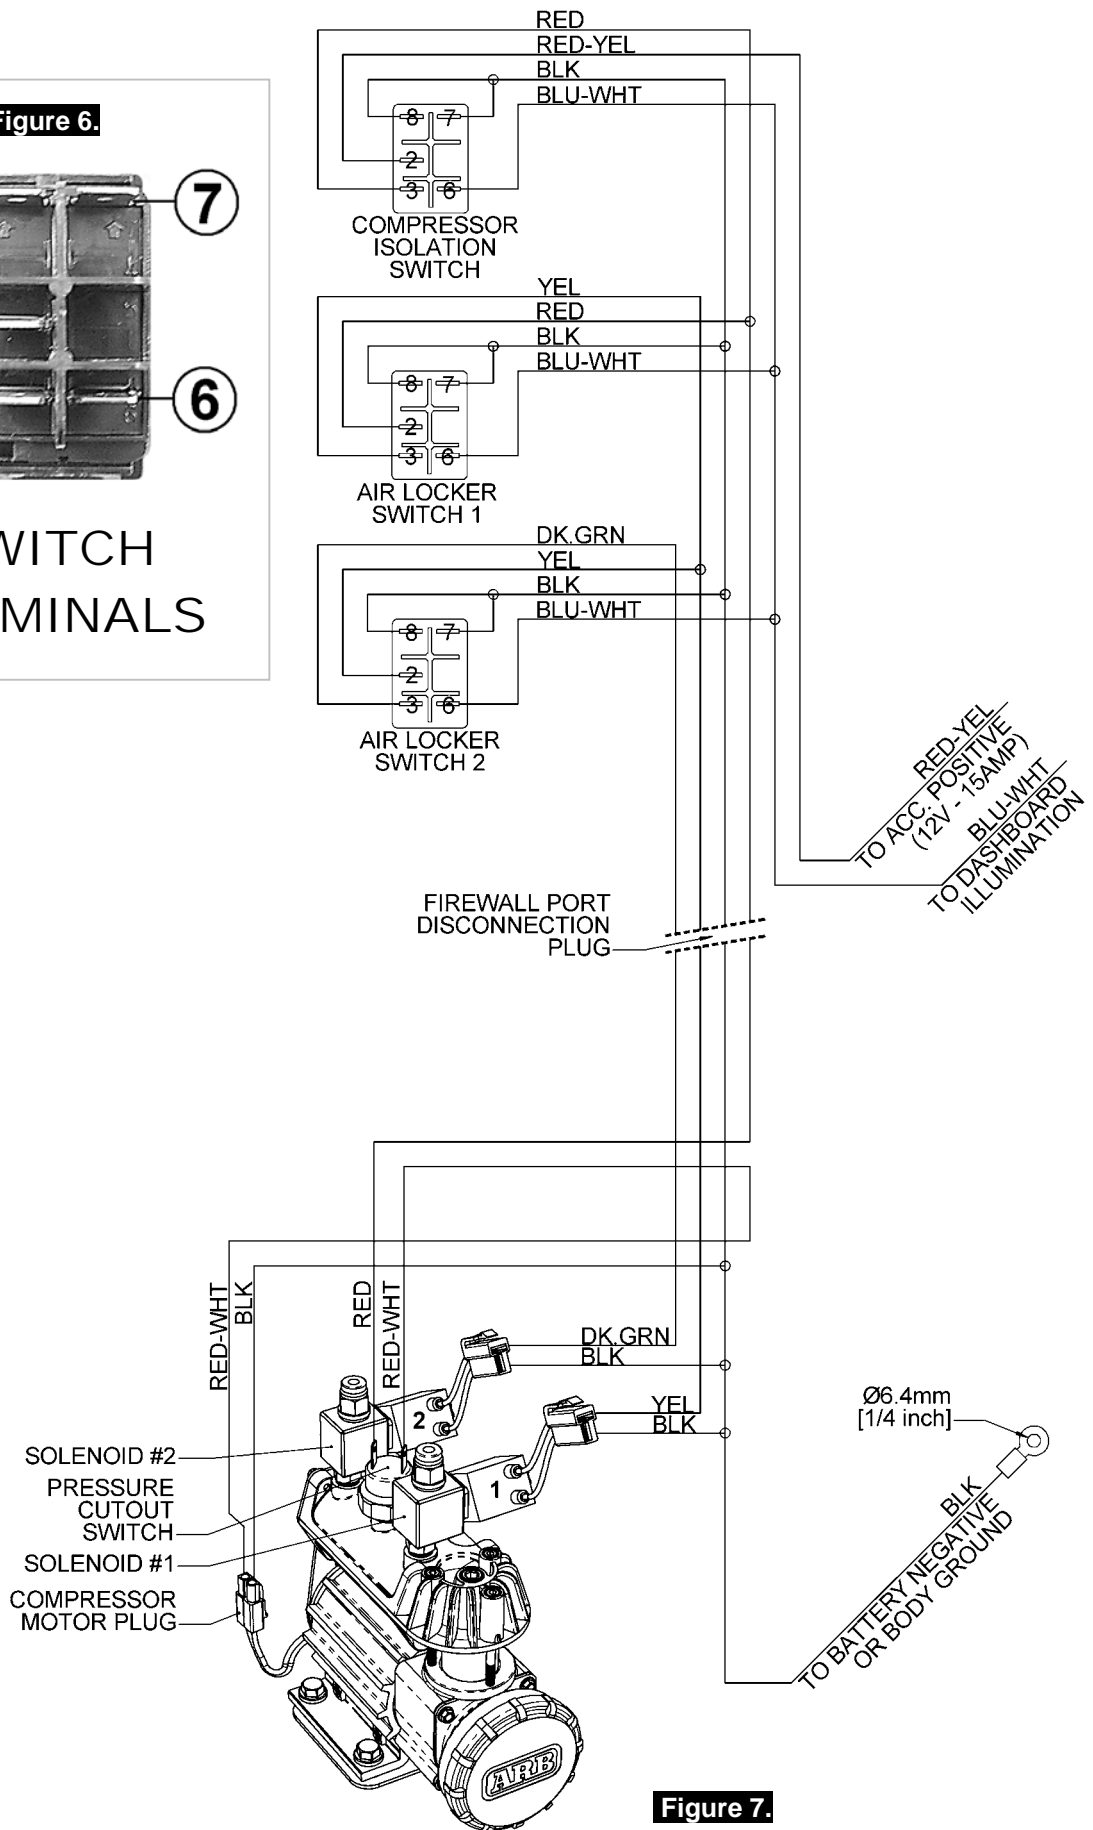

Figure 7.
When wiring an ARB compressor switch, *Air Locker* pressure switch, *Air Locker* actuator switch(es) and *Air Locker* solenoid(s) to an ARB Air Compressor, all connections can easily be set up using only the supplied wiring loom (ARB #180408 - Fig.7.)
- ☐ Consulting the wiring diagram (Fig.7.) for wire colors, and the switch terminal illustration (Fig.6.), plug each of the female spade terminals onto their appropriate switch terminal.
NOTE : Before attempting to troubleshoot a malfunctioning compressor, always make sure that the compressor manifold has been de-pressurized, all connections have been made according to the wiring diagram (Fig. 7), the vehicle's ignition is in the accessory power position, and that the isolating switch has been turned 'ON'.